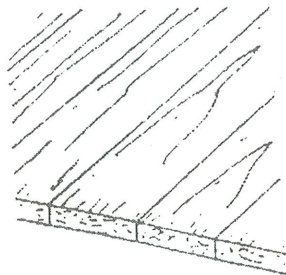

Fig 22
1. Align all boards as you want them to appear when finished (Fig.22) Mark center of slots on all boards as shown in (Fig.9). Then set biscuit depth.